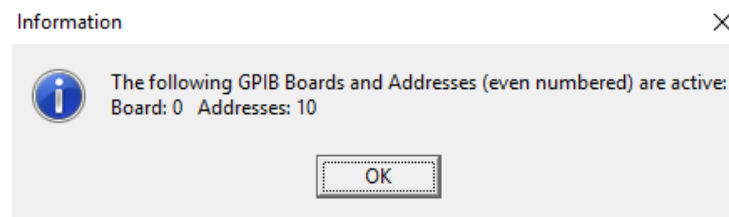

Figure 7
e. After clicking “OK”, a dialogue box will appear that indicates the active GPIB addresses (Figure 7).